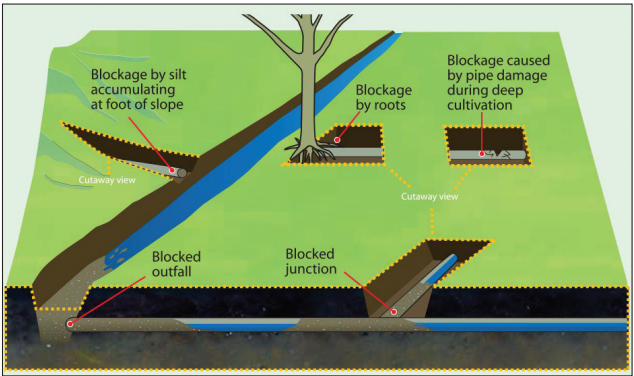

Figure 1: Examples of where blockages may arise.
- A regular maintenance programme should include assessment of the whole network, focusing in particular on likely areas for blockages (Figure 1) and adequate upkeep.